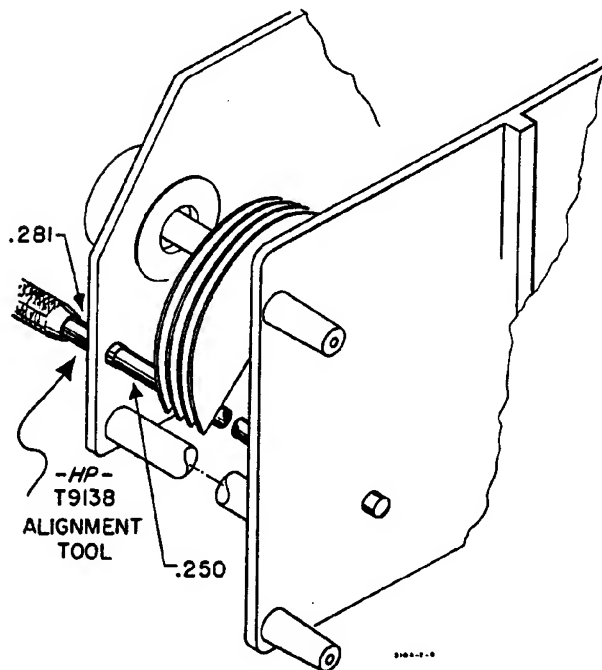

Figure 5-6. Rotor Alignment
- d. Set frequency counter to read 1490. Insert alignment tool (Ⓢ Stock No. T9138) into the .281-inch-diameter holes of the two castings. Remove tape from rotor and rotate rotor until the flat edge of the plates rests gently against the alignment tool. Refer to Figure 5-6.